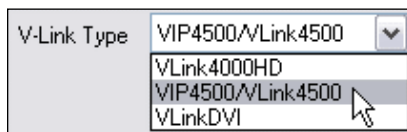

Figure 16: V-Link Type Selection
3. Choose **VIP4500/VLink4500** from the **V-Link Type** drop down list. Refer to **Figure 16**.